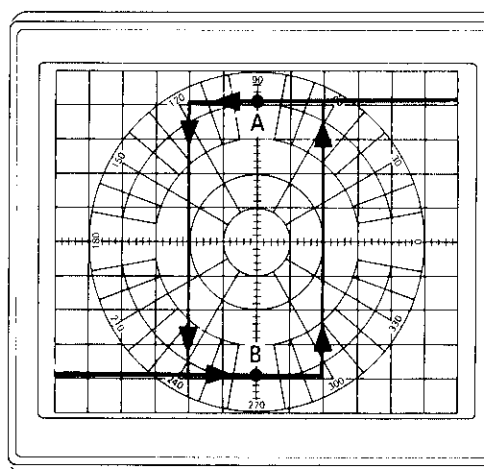

Figure A4-16. Hysteresis Loop of Phase Trace
- d. Set SCAN TIME SEC to MANUAL. Sweep through the transition in both forward and reverse direction using the Manual sweep control. Note the hysteresis loop as shown in Figure A4-16.
- e. Adjust both CW FREQUENCY and  $\pm\Delta F$  FREQUENCY to make the hysteresis loop six divisions wide and centered on the vertical center line of CRT. (See Figure A4-16.)
- f. Press Channel 1 DISPLAY MKR. Center trace dot on the vertical center line at point "A" on Figure A4-16 trace. The marker readout should be +180 degrees  $\pm$  2 degrees.
- g. Center trace dot on the vertical center line at point "B" on Figure A4-16 trace. The Channel 1 marker readout should be  $-180 \text{ degrees} \pm 2 \text{ degrees}$ .